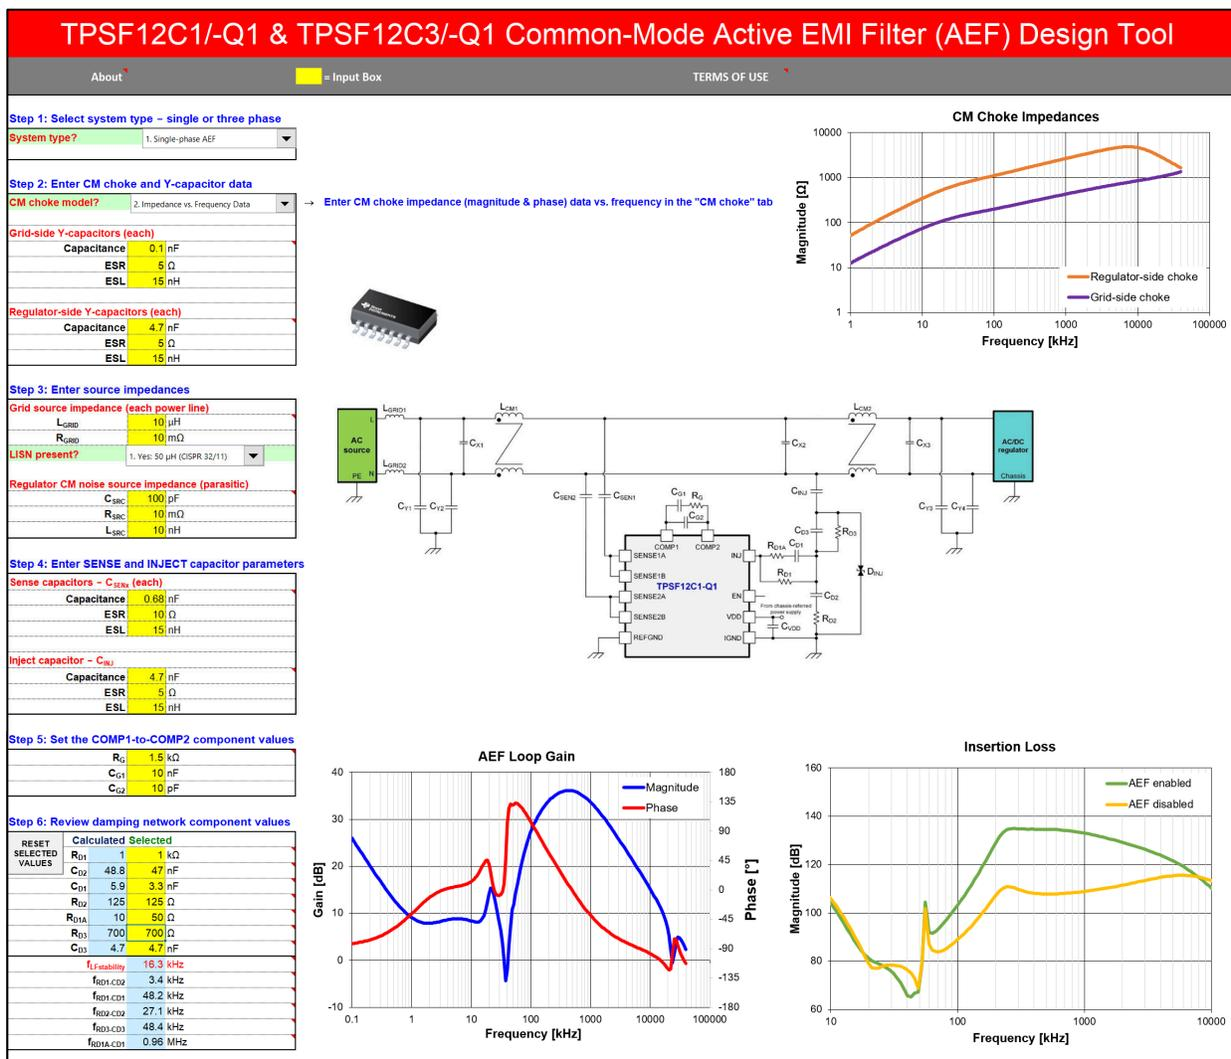

Figure 2-5. Quickstart Calculator With CM Choke Impedance, Loop Gain and Insertion Loss Plots
- For additional context pertaining to component selection and circuit optimization, refer to the TPSF12C1 product data sheet. In addition, the user must always characterize their AEF design using the TPSF12C1 quickstart calculator, an illustration of which is shown in Figure 2-5.